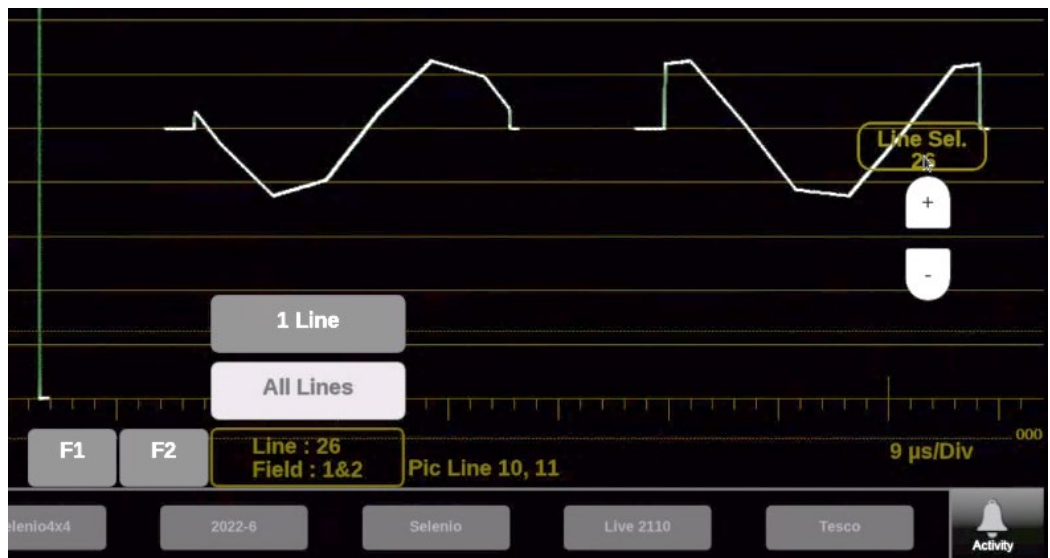

Figure 107: Waveform on-screen tools – Pic Line number
1. Select the **Lines** button at the bottom of the tile. (See Figure 107.)
- If a signal is SD, HD, 3G (see Figure 107):